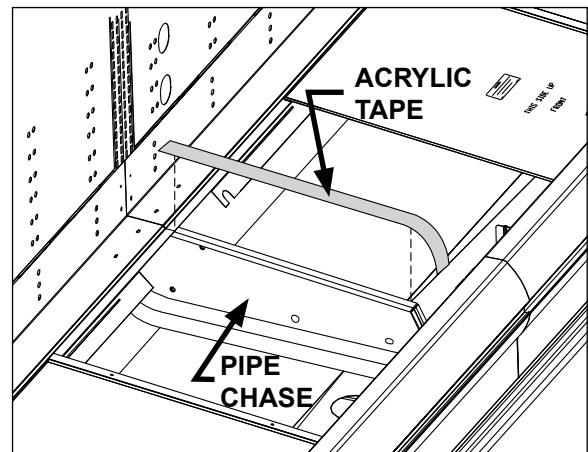

Fig. 4 Sealing the pipe chase
1. Seal the case-to-case joints with caulk (supplied), then apply acrylic tape (supplied) over the pipe-chase seam (Fig. 4). The tape acts as a watershed preventing water from settling in the case joint.